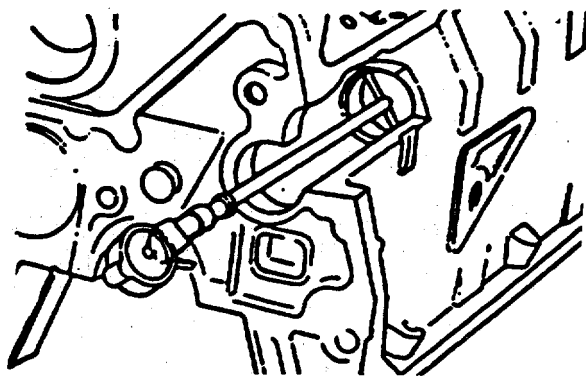

FIGURE 4-82. Measuring Camshaft Bores.
- f. Measure the camshaft bores (FIGURE 4-82). Diameter: maximum 2.1324 inch (54.164mm). The limit for number one bore applies to the ID of the bushing.